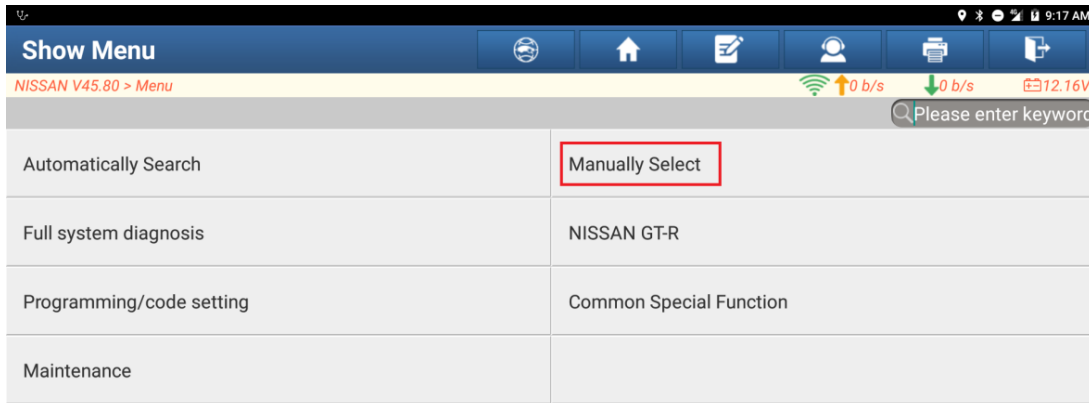

Figure 1
1. On an X431-PAD 5, choose [Local Diagnosis], and then choose [Nissan] to enter the menu (as shown in Figure 1).